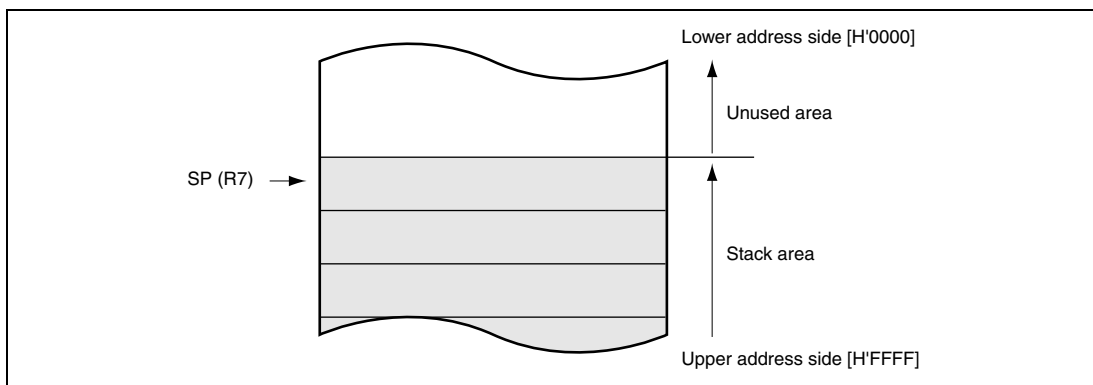

Figure 2.3 Stack Pointer
R7 also functions as the stack pointer (SP), used implicitly by hardware in exception handling and subroutine calls. When it functions as the stack pointer, as indicated in figure 2.3, SP (R7) points to the top of the stack.